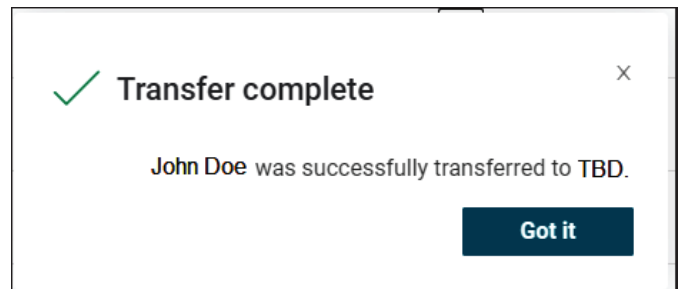

Figure 64. Transfer Status Confirmed
7. After transfer is complete, a pop-up window will indicate the user has been transferred to the new organization. See **Figure 64**.